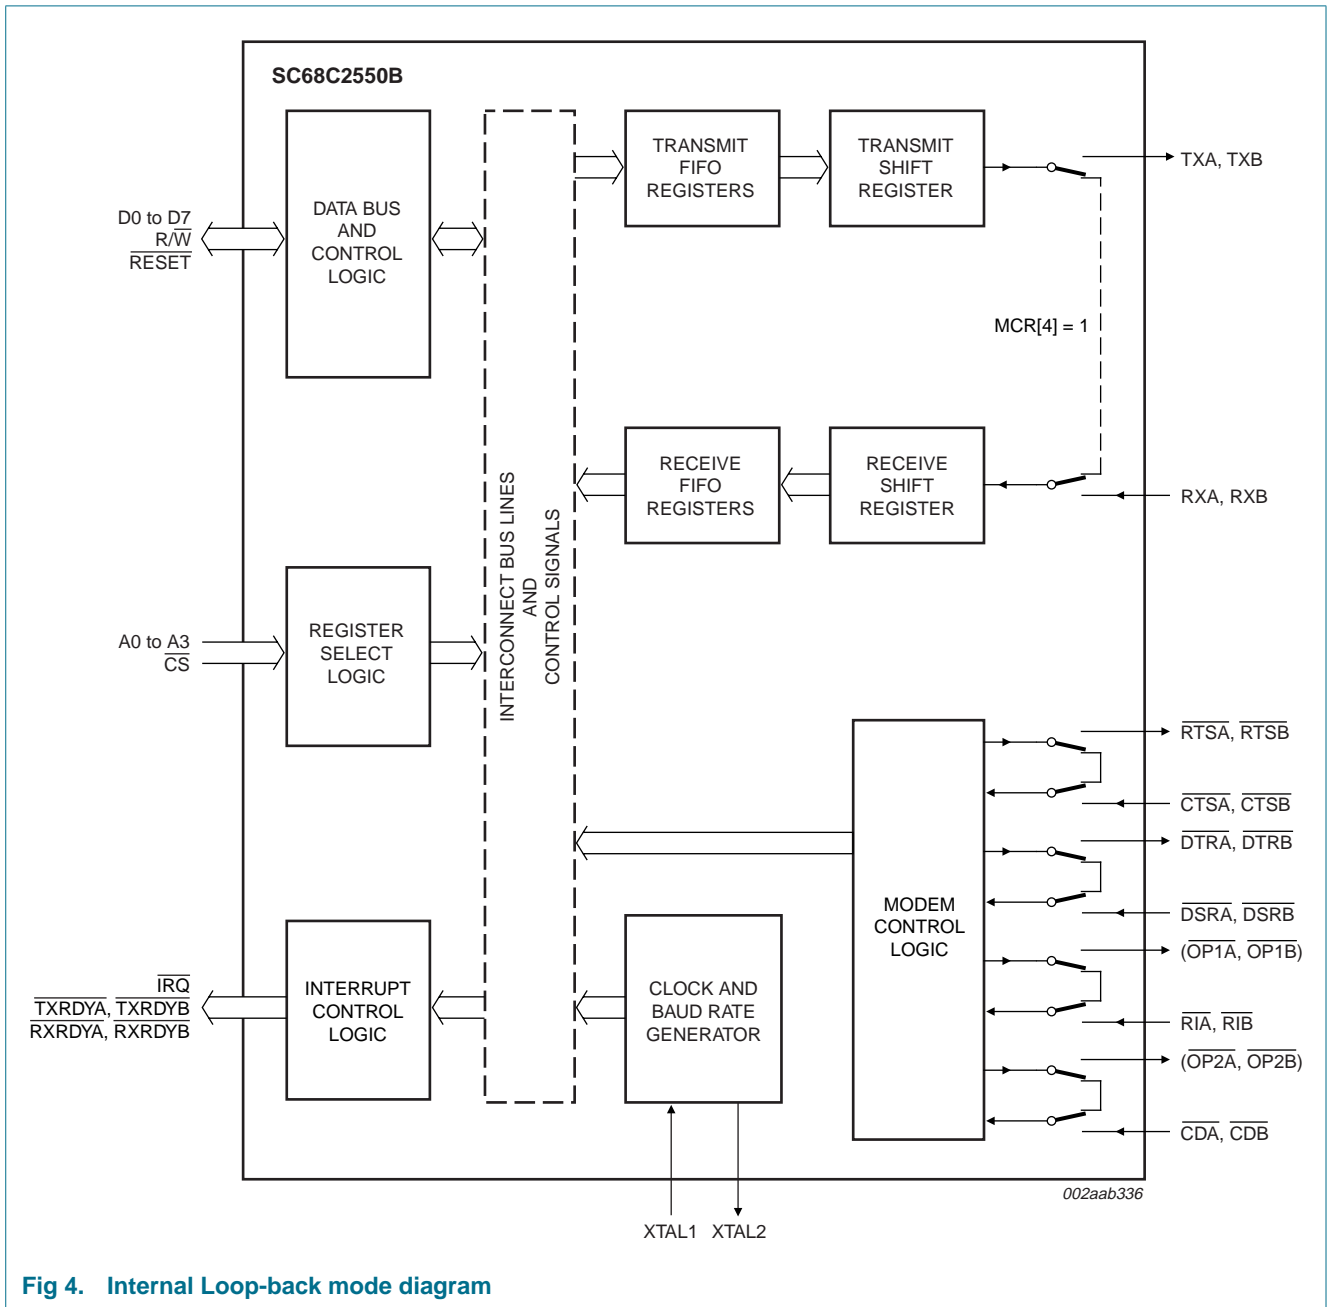

Fig 4. Internal Loop-back mode diagram
The internal loop-back capability allows on-board diagnostics. In the Loop-back mode, the normal modem interface pins are disconnected and reconfigured for loop-back internally (see Figure 4). MCR[3:0] register bits are used for controlling loop-back diagnostic testing. In the Loop-back mode, the transmitter output (TX) and the receiver input (RX) are disconnected from their associated interface pins, and instead are connected together internally. The  $\overline{\text{CTS}}$ ,  $\overline{\text{DSR}}$ ,  $\overline{\text{CD}}$ , and  $\overline{\text{RI}}$  are disconnected from their normal modem control inputs pins, and instead are connected internally to  $\overline{\text{RTS}}$ ,  $\overline{\text{DTR}}$ , MCR[3] ( $\overline{\text{OP2}}$ ) and MCR[2] ( $\overline{\text{OP1}}$ ). Loop-back test data is entered into the transmit holding register via the user data bus interface, D0 to D7. The transmit UART serializes the data and passes the serial data to the receive UART via the internal loop-back connection. The receive UART converts the serial data back into parallel data that is then made available at the user data interface D0 to D7. The user optionally compares the received data to the initial transmitted data for verifying error-free operation of the UART TX/RX circuits.